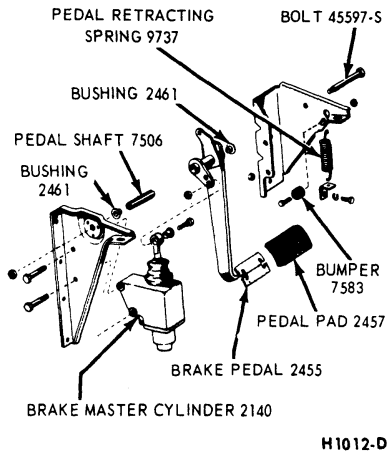

FIG. 11 Single Master Cylinder and Brake Pedal Installation — C-Series
- Adjust the brake pedal free travel to 3/16-3/8-inch (Fig. 11, Part 12-01). Torque the eccentric bolt nut to specifications.